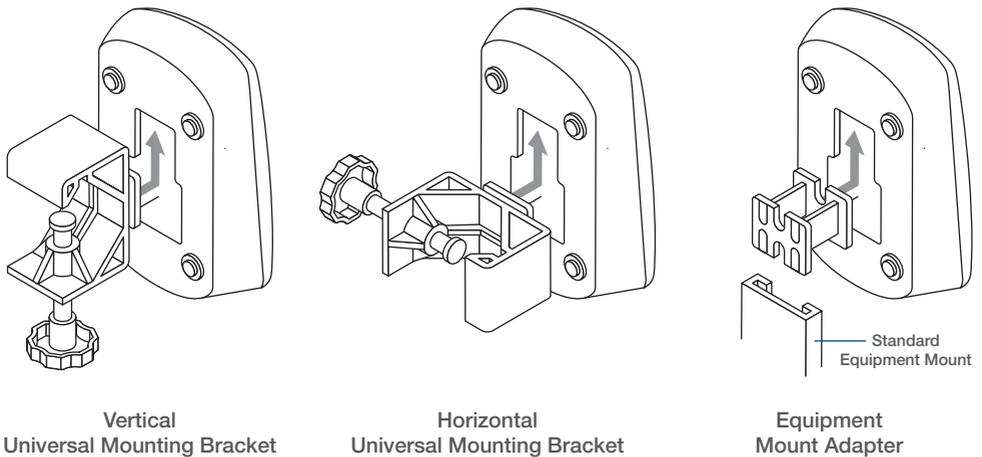

Figure 3. Aeroneb Pro-X Controller and universal mounting bracket configurations
7. Use the universal mounting bracket to attach the controller to an IV pole or bed rail in either a vertical or horizontal orientation (Figure 3).
8. Where a standard equipment mount is available, use the equipment mount adapter to support the controller (Figure 3).